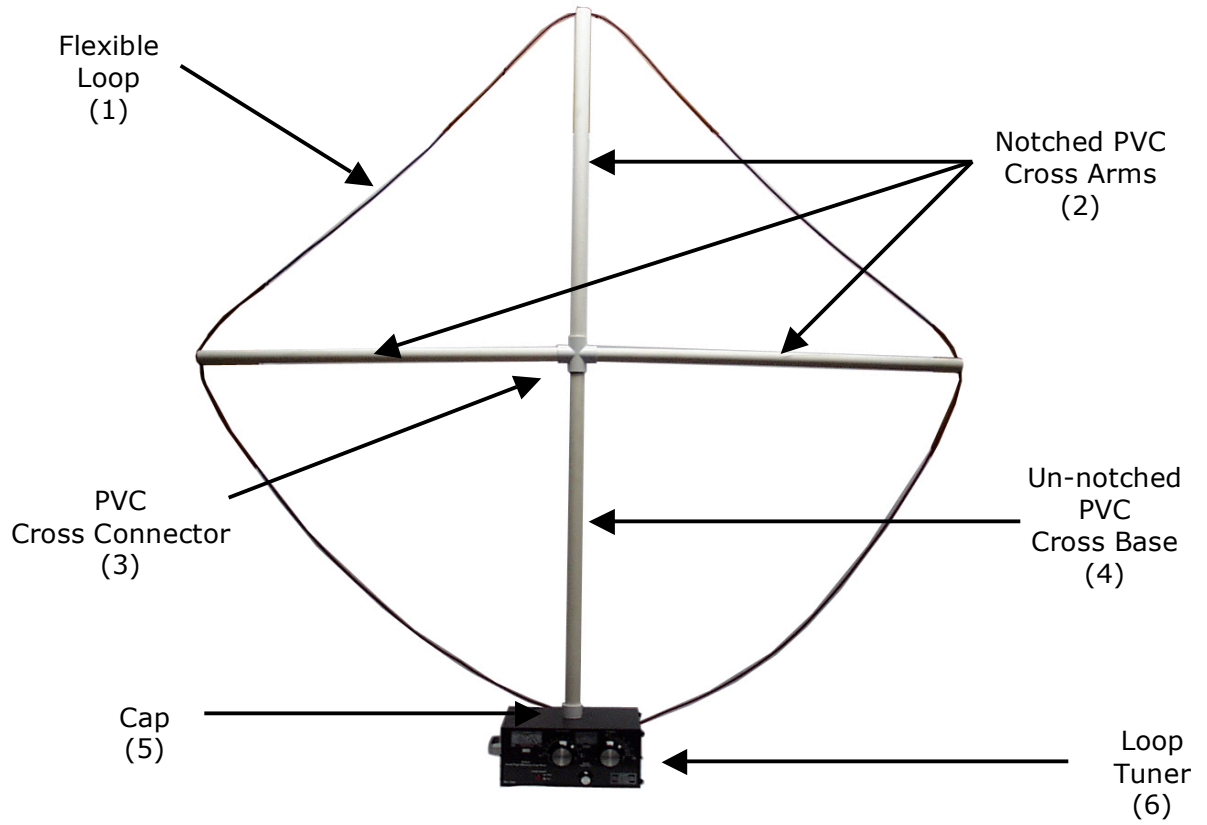

Figure 1: PVC Cross Mount Loop Assembly
1. Assemble the PVC Cross Mount as shown in Figure 1.
- a. Place *Notched PVC Cross Arms (2)* on each side and top of the *PVC Cross Connector (3)*.
- b. Place *Un-notched PVC Cross Base (4)* on the bottom of the *PVC cross Connector (3)* and fit into the *Cap (5)* on the top of the *Loop Tuner (6)* as shown in Figure 1.
2. Place the *Loop Tuner (6)* at the chosen place of operation and attach the *Flexible Loop (1)* as shown in Figure 1.
- a. Place the *Flexible Loop (1)* wire around the PVC cross mount and fit into the notches on the *Notched PVC Cross Arms (2)* forming a loop.